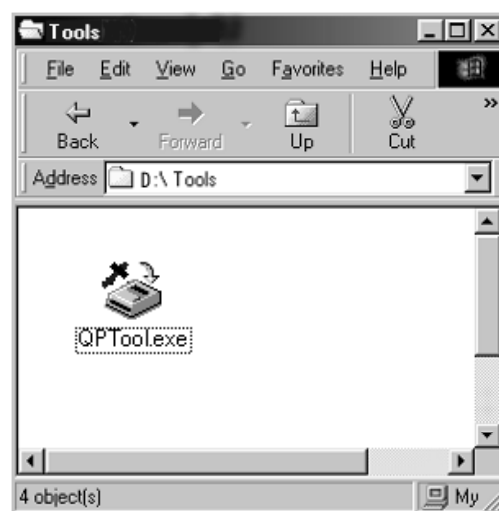

Figure 5-202
- 4) Open the installed "Tools" folder and start up the "QPTool.exe" file. (See Figure 5-202.)